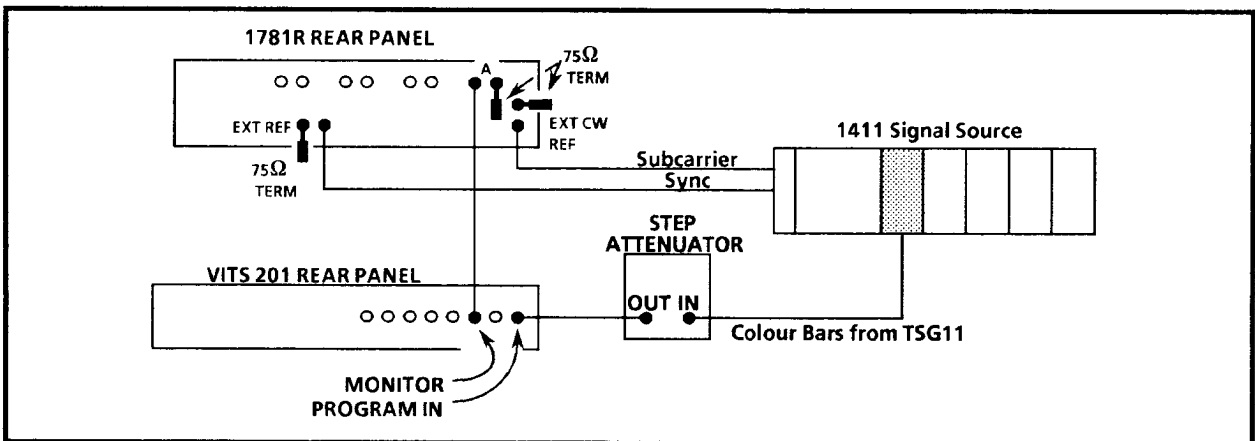

Figure 6-8. Equipment connections for Phase Change with Incoming Signal Amplitude Change.
- a. Connect the equipment as shown in Figure 6-8.
- a. Connect the equipment as shown in Figure 6-8, but replace the colour bar signal from the 1411 with Pulse and Bar (TSG15).